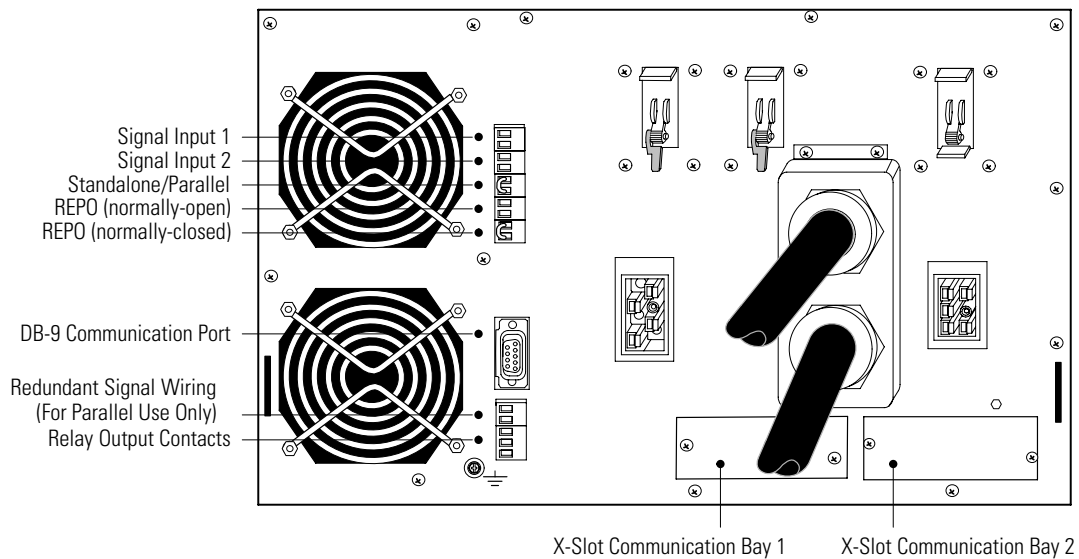
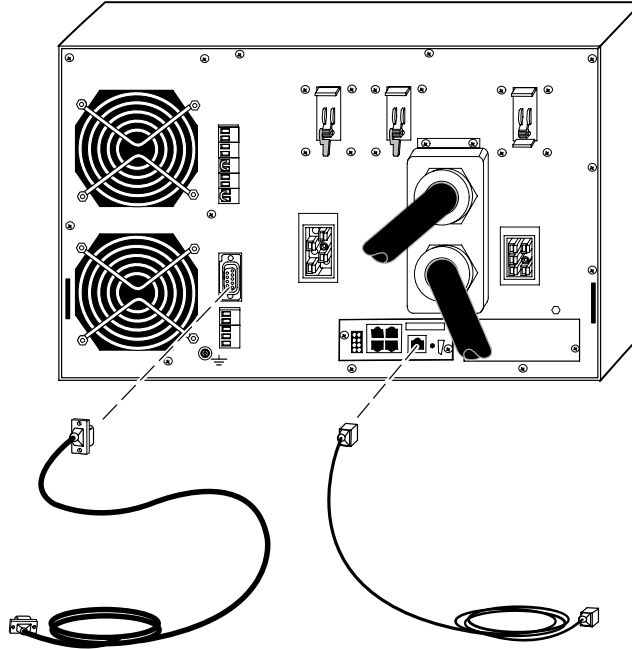
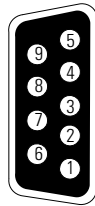

Figure 47. Communication Options and Control Terminals (Standalone UPS shown)
Figure 48. Installing Communication Cables
Figure 49. Communication Port
Figure 47 shows the location of the communication options and control terminals on the UPS.
1. Install the appropriate X-Slot card and/or necessary cable(s) (see Figure 47 and Figure 48).
The cable pins are identified in Figure 49 and the pin functions are described in Table 6. See Figure 47 on page 89 for the communication port location.
See Figure 47 on page 89 for the location of the two X-Slot communication bays.
There are two REPO positions that may be used, normally-open (NO) or normally-closed (NC). See Figure 47 on page 89 for REPO locations.
The UPS incorporates a programmable relay output with potential free contacts for remote alarm indications (see Figure 47 on page 89). An additional four relay outputs can be obtained with the X-Slot compatible Relay Interface Card.
The UPS incorporates two programmable signal inputs (see Figure 47 on page 89). Use of non-polar (relay) control input is recommended. The pins must be shorted with maximum resistance of 10 ohm in order to activate the specific input.